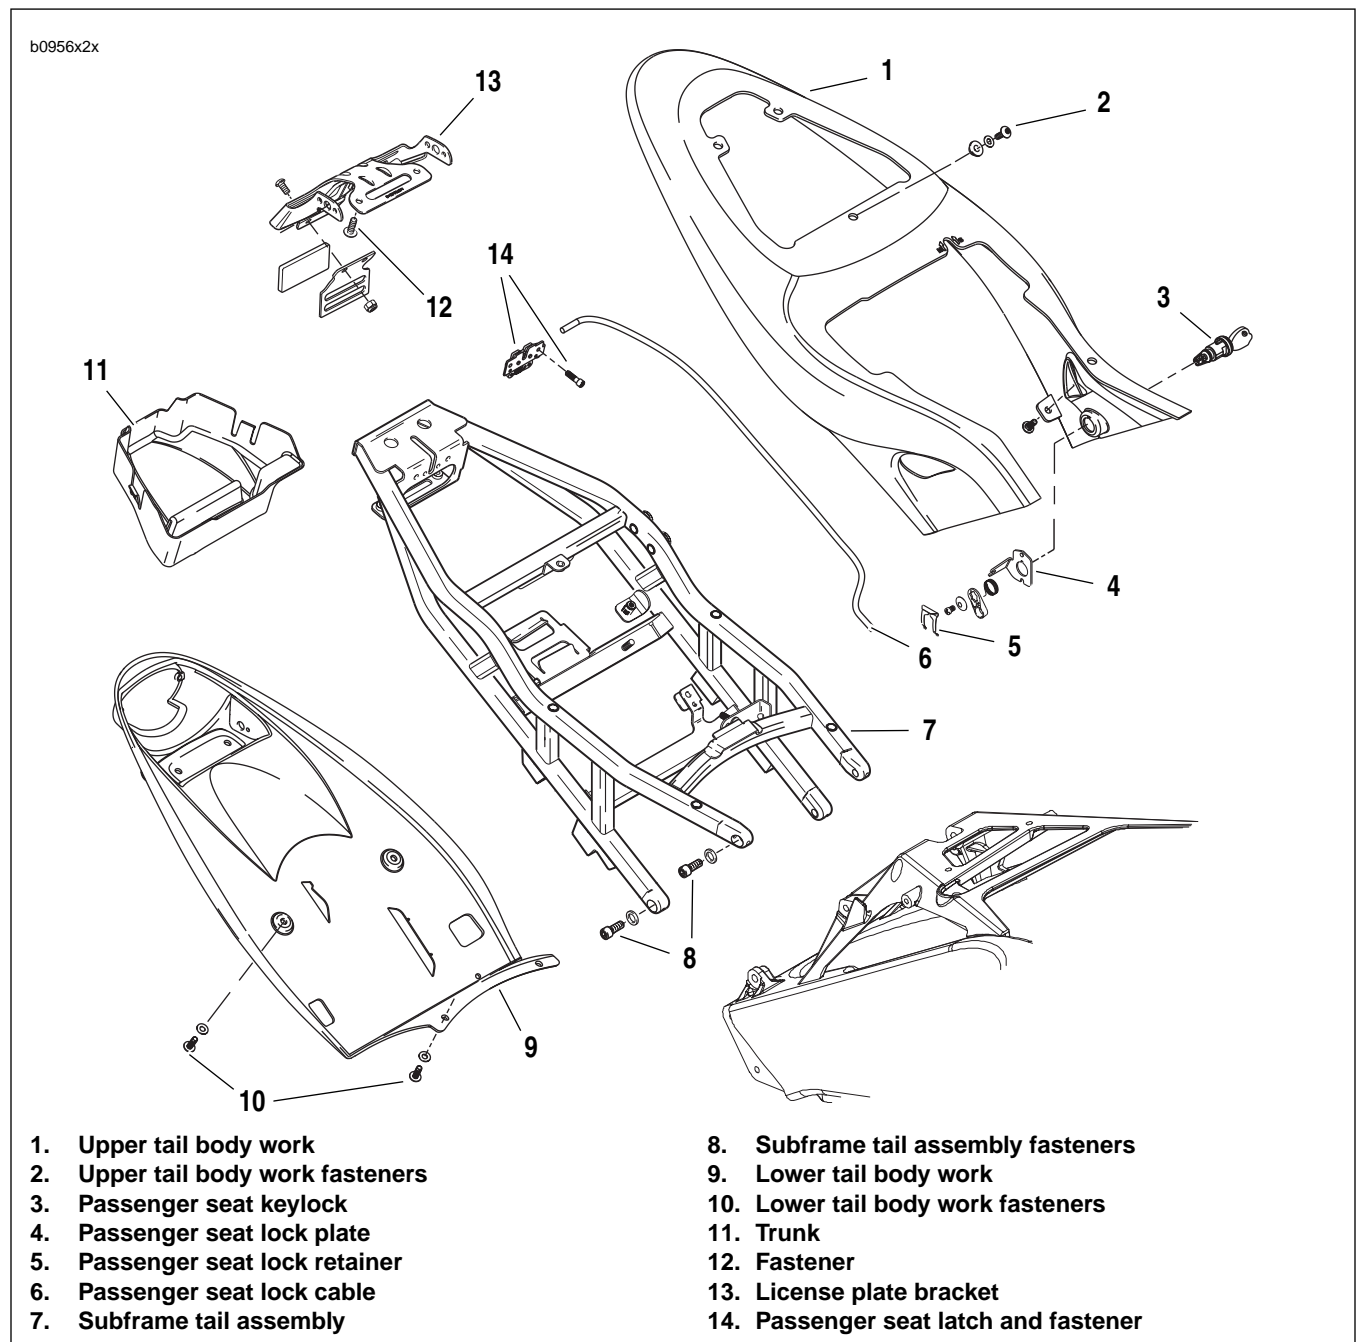
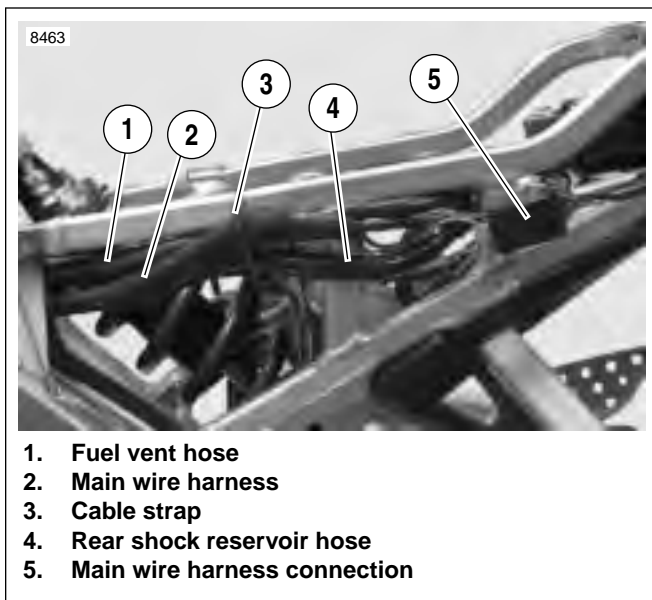
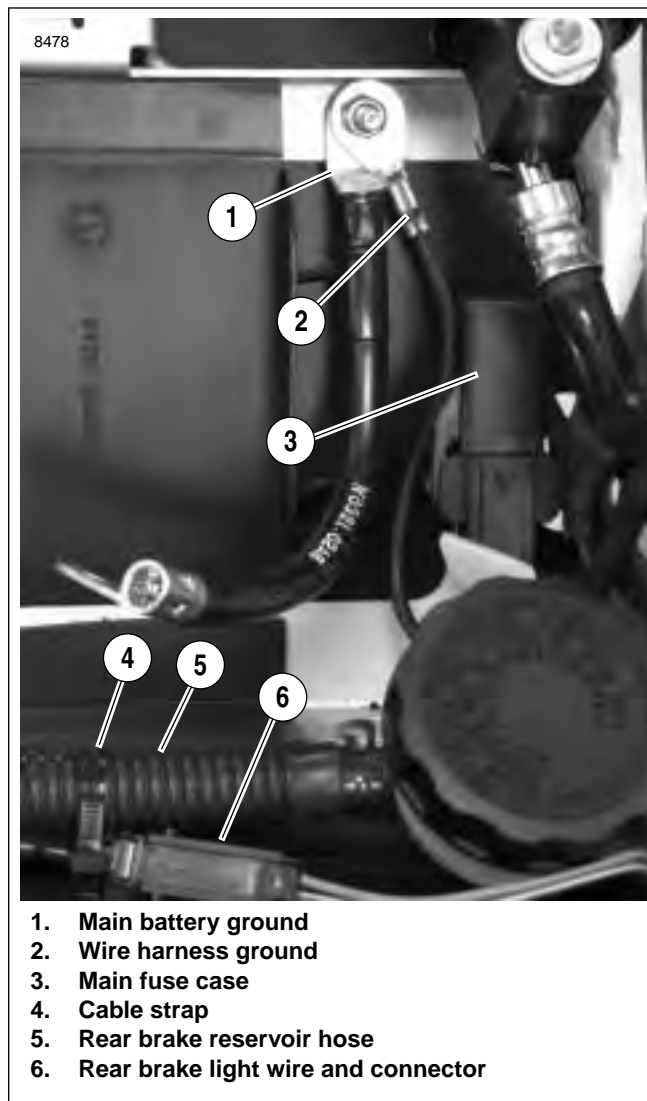
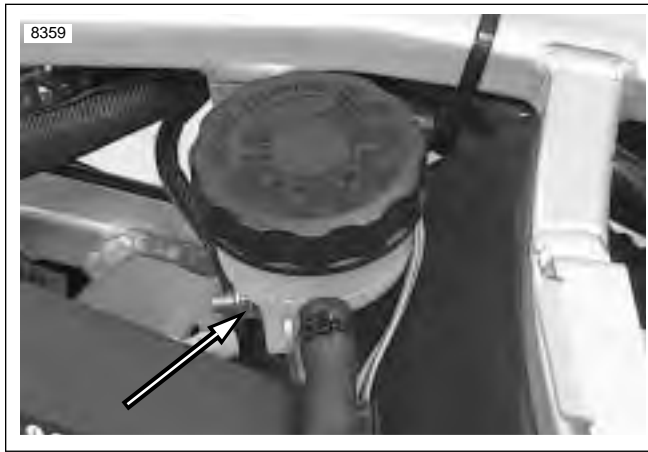

Figure 2-120. Subframe Tail Assembly and Body Work Assembly
Figure 2-121. Left Side Subframe Tail Assembly Hose and Wire Routing
Figure 2-122. Inside Subframe Tail Assembly Hose and Wire Routing
Figure 2-123. Remote Reservoir Clamp Nut
3. See Figure 2-120. Remove upper body work (1) from subframe tail assembly (7).
- a. Remove body work fasteners (2).
- b. Disconnect passenger lock cable (6) by removing cable from seat lock plate (4) and ferrule from keylock (3).
- c. Lift upper tail body work (1) off subframe tail assembly (8).
4. Remove passenger seat latch (14) from rear of subframe tail assembly.
5. See Figure 2-121. Cut cable strap (3) from subframe tail assembly holding vent hose (1), main wire harness (2) and shock reservoir hose (4).
6. Disconnect main wire harness connection (5).
10. See Figure 2-120. Remove license plate fasteners (12) from lower tail body work (9) and remove license plate bracket (13).
12. Remove lower body work (9) and trunk (11) from subframe tail assembly (7).
- a. Remove lower body work (9) underneath subframe tail assembly by removing fasteners (10).
- b. Remove trunk (11).
13. See Figure 2-122. Disconnect main battery ground (1) and ground to wire harness (2).
14. Remove main fuse case (3) from subframe tail assembly.
15. See Figure 2-122. Cut cable strap (4) holding rear brake reservoir hose (5) and rear brake light wire (6).
16. Disconnect rear brake light connection (6).
17. See Figure 2-123. Remove rear brake reservoir clamp nut.
20. See Figure 2-120. Remove subframe tail assembly fasteners (8) and remove subframe tail assembly (7) from frame.
1. Install subframe tail assembly (7) to frame and tighten fasteners (8) to 21-23 ft-lbs (28-31 Nm) using LOCTITE 272.
3. See Figure 2-122. Feed rear brake light connector (6) into subframe tail assembly and connect.
4. Install main fuse case (3) onto subframe tail assembly.
5. Install main battery ground (1) and ground to wire harness (2) to subframe tail assembly. Tightening fastener to 48-72 **in-lbs** (5.4-8 Nm).
6. See Figure 2-121. Feed the rear shock reservoir (4) through second subframe tail assembly support.
9. See Figure 2-121. Feed fuel vent hose (1) through tail section, keeping the hose on top of rear shock reservoir hose. See D.1 HOSE AND WIRE ROUTING for hose and wire routing.
10. Install cable strap (3) holding shock reservoir hose, wire harness and fuel vent hose to subframe tail assembly.
11. See Figure 2-123. Feed rear brake reservoir hose underneath subframe tail assembly and install rear brake reservoir tightening fastener to 48-72 **in-lbs** (5.4-8.1 Nm).
12. See Figure 2-122. Install cable strap holding brake light connector and rear reservoir hose.
13. See Figure 2-120. Install lower body work (9) and trunk (11) onto subframe tail assembly (7).
- a. Install trunk (11).
- b. Install lower body work (9) underneath subframe tail assembly by tightening fasteners (10) to 12-36 **in-lbs** (1.3-4 Nm).
15. See Figure 2-121. Connect rear power harness to tail light harness (5).